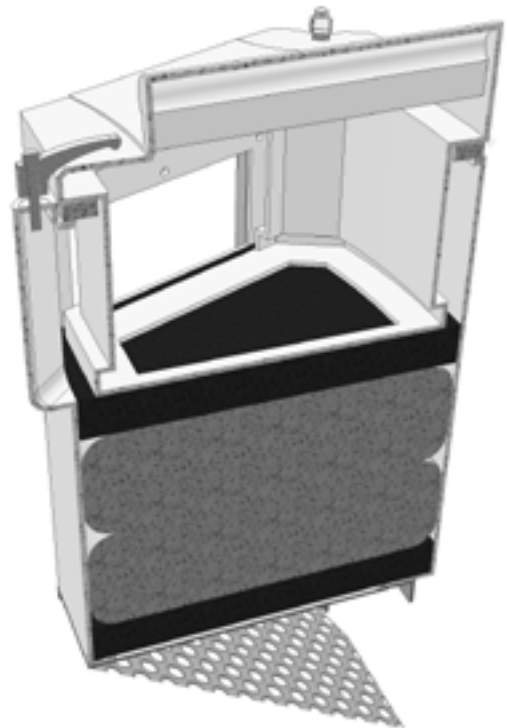

Fig.8 Cutaway view of the Filter Module
4. If the standing water level in the sump is above the base of the Filter Modules (see Fig.8), tug the Pull Chain(s) to release the Drain Down Filter plug(s). Allow the excess water to drain out of the chamber.
13. Contact Hydro International at (800) 848-2706 to discuss any irregularities noted during cleanup.